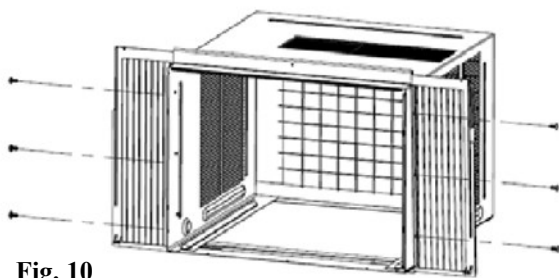

Fig. 10
3. Fasten the curtains to the unit with short screws (Fig.10).